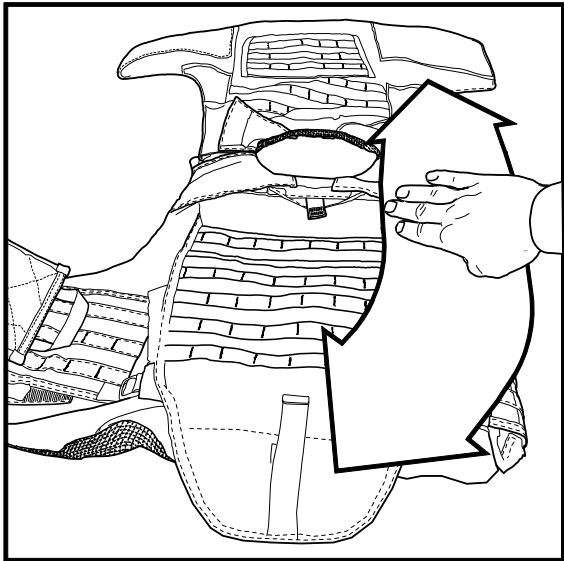

Figure 1. Smoothing Out IOTV.
- g. Turn vest over so that interior fabric faces down and the exterior fabric faces up (Figure 1).